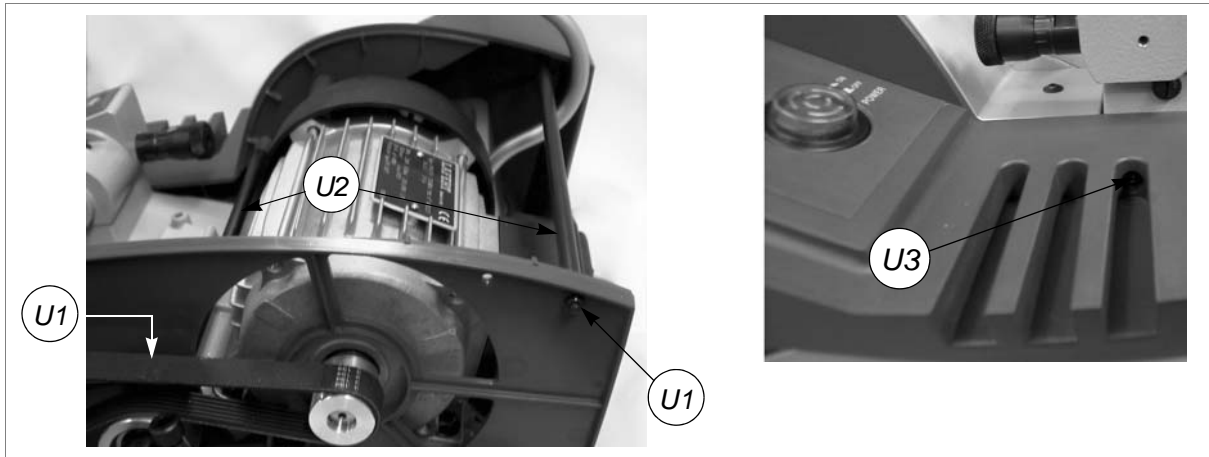

Fig. 37
- 7) Loosen the stay bolts (U2) (fig.37) and remove.
- 8) Loosen the screw (U3) on the left-hand cover (fig.37).